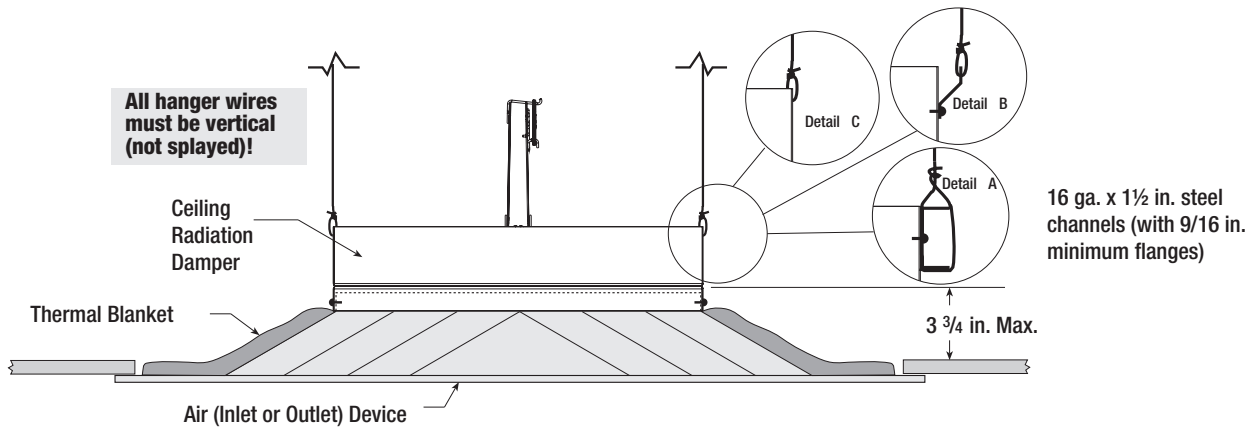

Figure 10
- Ceiling Radiation damper may be connected directly to the air device neck and supported by steel channel (see **Detail A, Figure 10**).
- Ceiling radiation damper may be connected directly to the air device neck and supported by hanger straps (see **Detail B, Figure 10**).
- Ceiling radiation damper may be connected directly to the air device neck and supported by direct suspension with wires looped through holes in the damper frame before tying (see **Detail C, Figure 10**).
Models CRD-1, CRD-1LP, CRD-2, and CRD-60 may be installed as shown in Figure 10 (model CRD-1 & CRD-1LP illustrated).